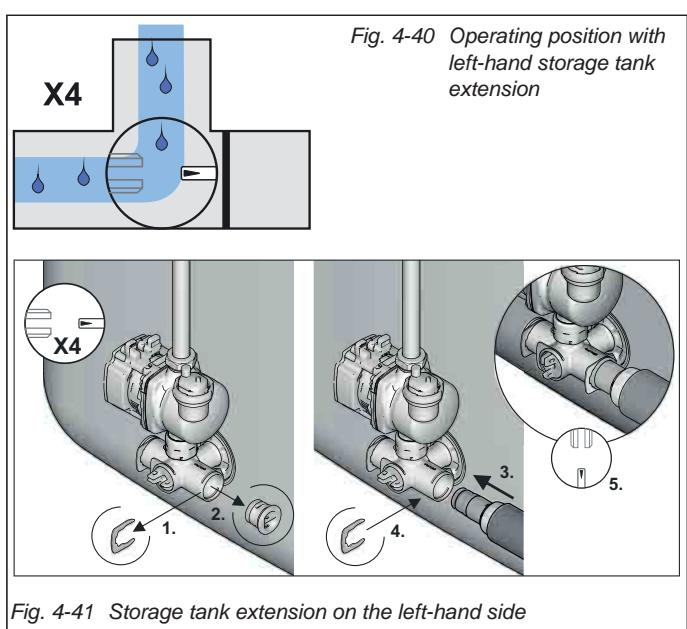

Fig. 4-40 Operating position with left-hand storage tank extension
- X4: storage tank extension on the left-hand side, fig. 4-40.